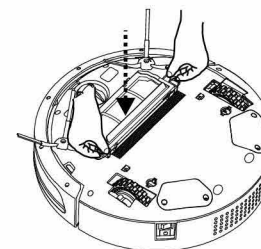

Fig. 3
3. Align the buckle of the cleaning bracket into the two U-shaped grooves and press down to lock, as shown in fig.3.